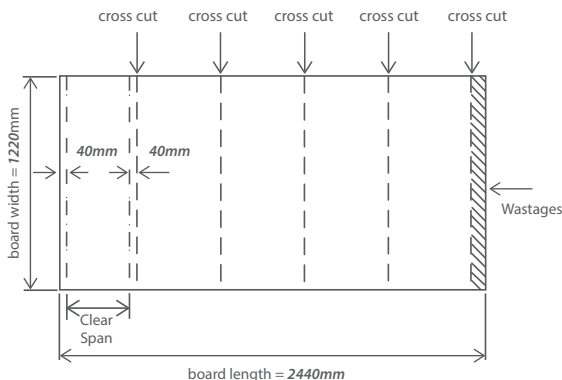

Figure 8.1 – Board Cutting Method
3. Cut **PRIMAflex™** PFW board across the **2440mm** side, forming a panel size of **1220mm x "Clear Span + 80mm"**. Board must be cut as shown in **Figure 8.1**.